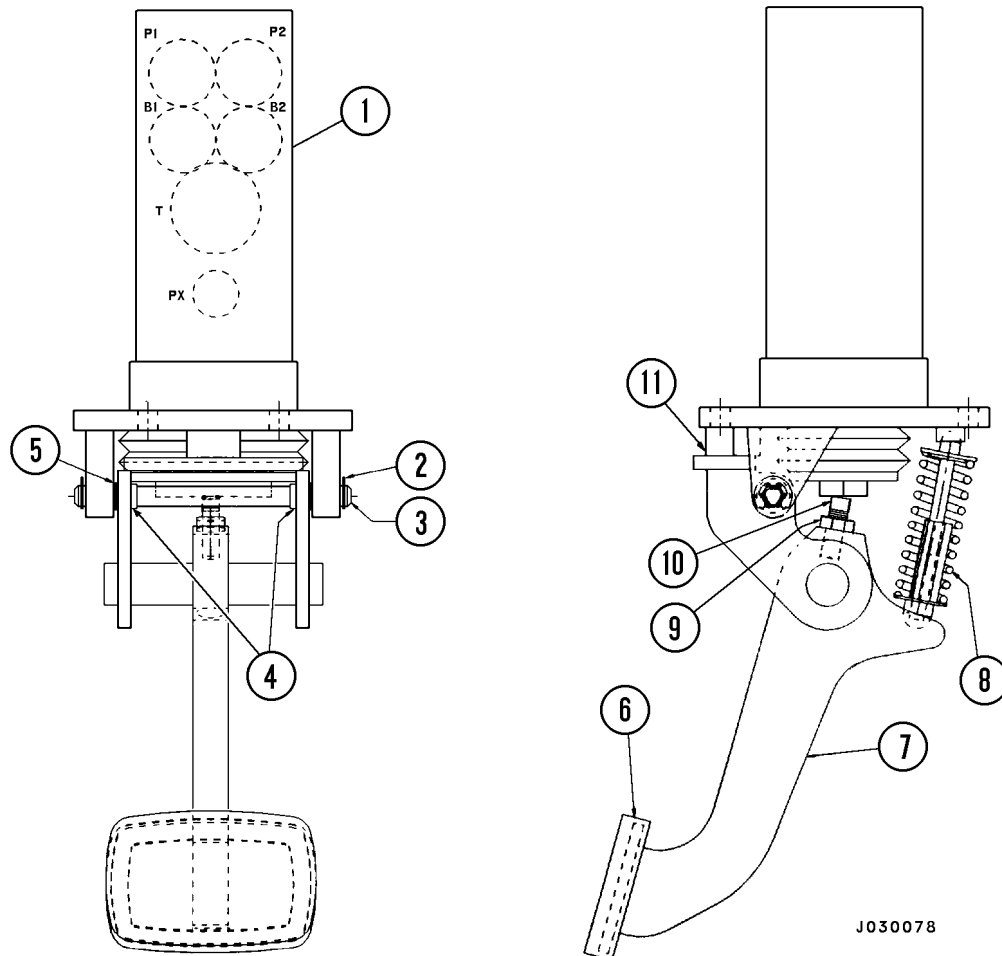

FIGURE 3-10. SINGLE PEDAL BRAKE VALVE ASSEMBLY
1. Install jam nut (9, Figure 3-10) and set screw (10) to brake pedal actuator (7).
2. Insert nylon bushings (4) into brake pedal actuator.
3. Install one retaining clip (2) to one end of pivot shaft.
4. Align pedal structure to brake valve (1) and partially insert pivot pin. Move pedal structure to the "B2" side of valve and insert shims (5) between pedal structure and brake valve ear to fill gap. Fully insert the pivot shaft (3). Install the remaining retainer clip (2).
5. Assemble spring assembly (8) and install complete assembly to brake pedal actuator as shown. **Be sure to install spring assembly correctly, with larger ball socket end pointing down and smaller end up.**